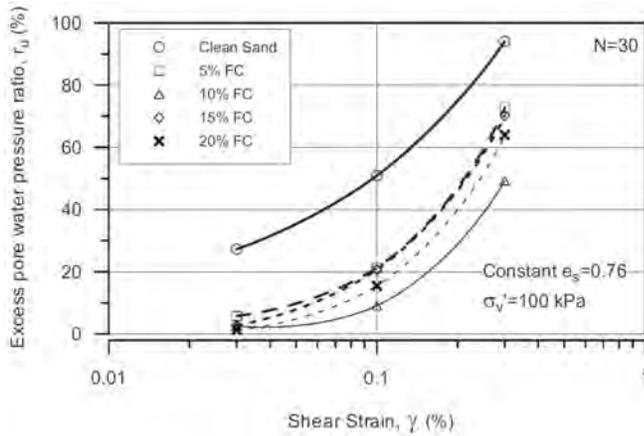

Figure 1: Conversion between r_u and γ (Hazirbaba and Rathje, 2009).
2. The target r_u value is converted into a target cyclic shear strain (γ) incorporating the effect of soil fines content on excess pore water pressure generation (Hazirbaba and Rathje, 2009). The analyses presented in this article assume clean sand and employ the conversion presented on Figure 1.
6. Steps 4 and 5 are iterated trialling different pile spacings until the calculated γ_{comp} is equal to, or slightly less than, the target cyclic shear strain. The final γ_{comp} profile is converted back into r_u through Figure 1.